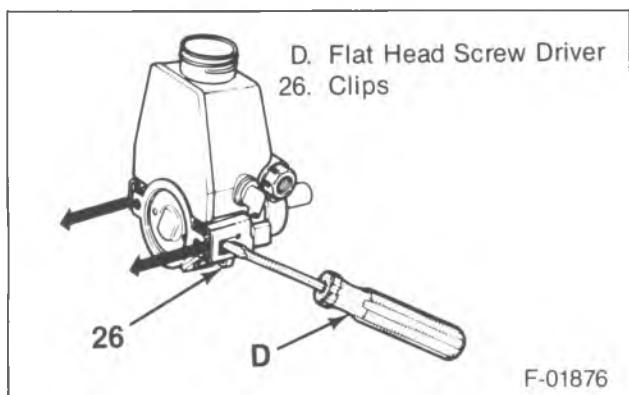

Figure 30—Removing the Reservoir Clips
- 1. Clips (26), if equipped.
- Pry the tab and slide the retaining clip off (figure 30).
23. Clips (26) (figure 30).